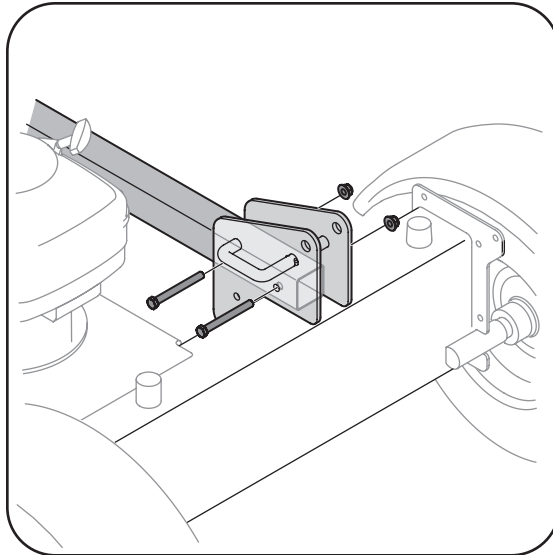

Figure 3-2
1. With the log splitter still standing upright, remove two hex bolts and hex nuts from the tank bracket. See Figure 3-2.
2. Align the holes in the tongue with the holes in the tank bracket and secure with hardware just removed. See Figure 3-2.